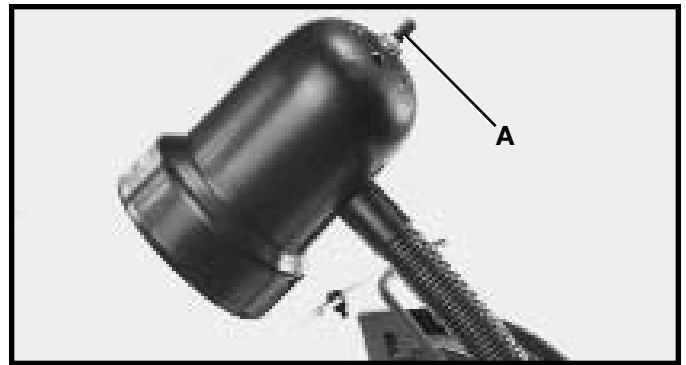

Fig. 13
If you purchased the Model 23-645, the flexible lamp operates independently of the grinder. To turn the lamp on and off, rotate switch (A) Fig. 13.